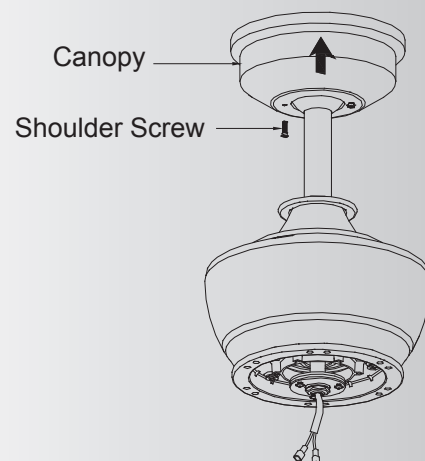

Fig. 15
Step 2. Assemble canopy by rotating key slot in canopy over shoulder screw in mounting bracket. Tighten shoulder screw. Fully assembled and tighten second shoulder screw that was previously removed. (Fig. 15)